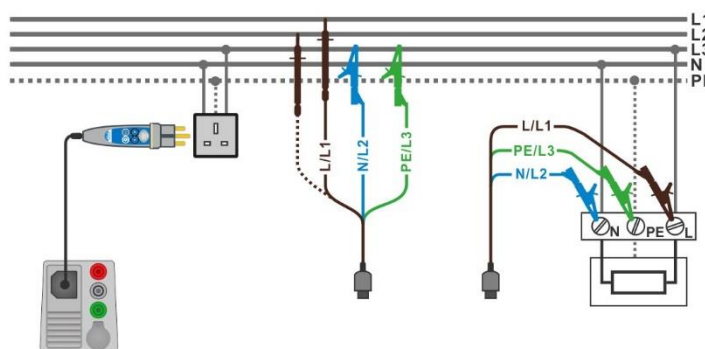

Figure 7.63: Phase-neutral or phase-phase line impedance measurement – connection of Plug commander and 3-wire test lead
- › Connect 3-wire test lead or Plug commander to the object under test, see **Figure 7.63**.